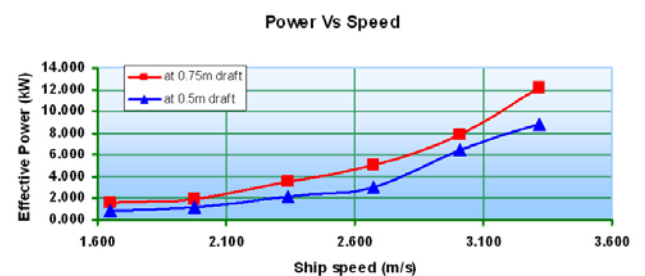

Fig.3. Power variation at different draft (experimental results)
3. A 63% increase in effective power is observed when there is an increase of 50% draft. (fig.3)